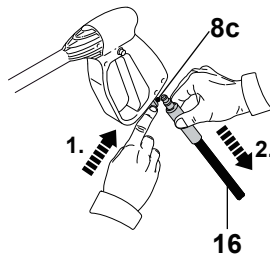

Fig. 27
11. Push the latch (8c) on the spray gun (8) to open the connecting port and disconnect the high pressure hose (16) by pulling it out (Fig. 27).